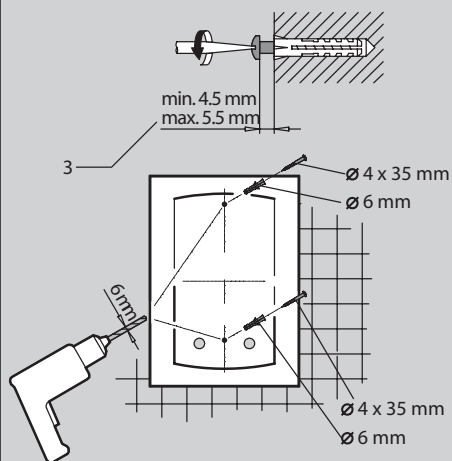

Fig 7
3. Depth for mounting screw (Fig 7#3)
- Place a drilling guide at the drilling position in order to drill a hole in the wall (Fig 7).
- Insert a wall plug and screw in (the depth of the protruding screw head must be correct) (Fig 7#3).